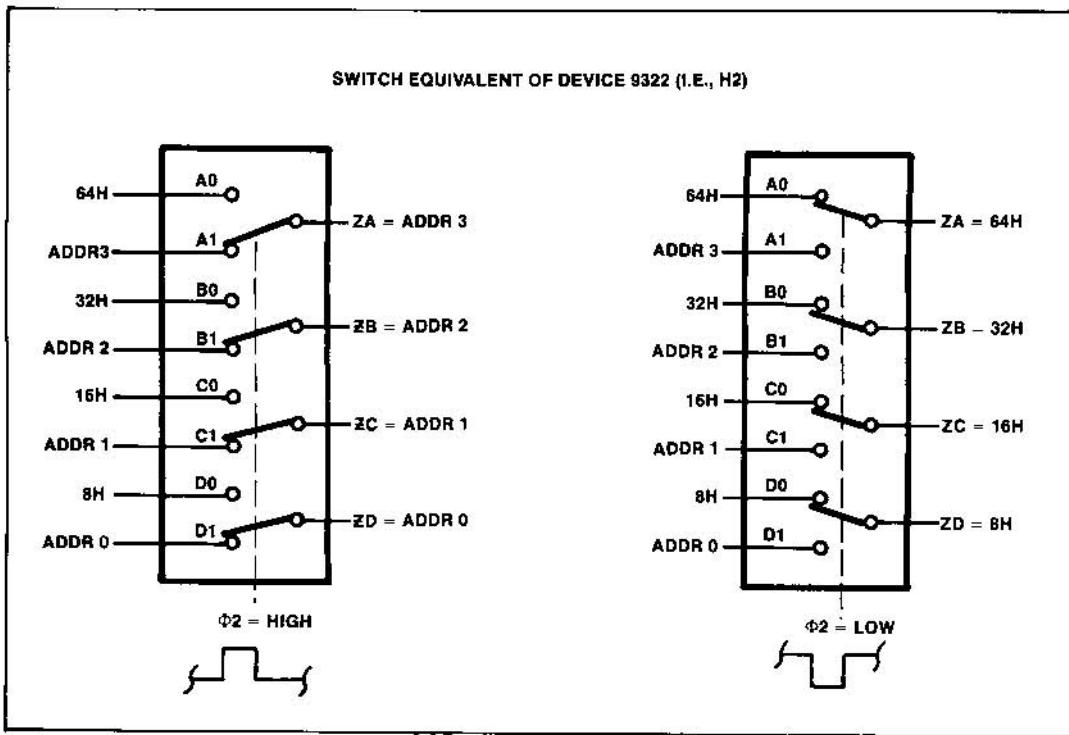

Figure 3-12 Address Multiplexers Equivalent Diagram
2. When Φ_2 is low, horizontal sync signals (8H-128H) and vertical sync signals (8V-128V) are now allowed to address this game display RAM and read data out of it. This data being read is latched by latches P2 and M2, and labeled DISPLAY 0-DISPLAY 7 (See Figure 3-12).